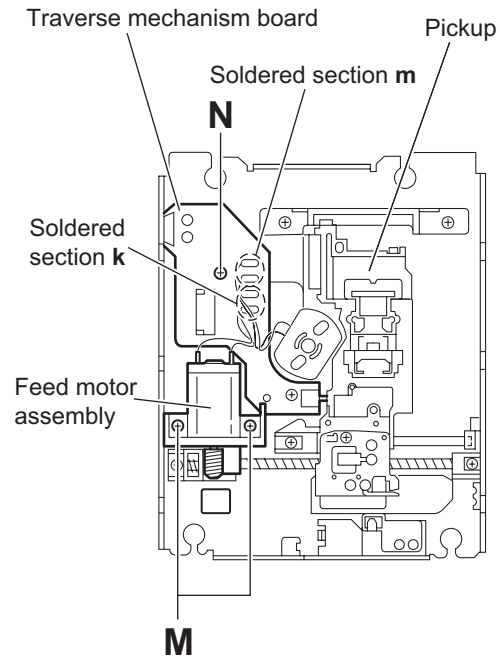

Fig.20
3.3.15 Removing the feed motor assembly (See Figs.20 and 21)
- (1) Remove the wires (White/Black) from the soldered section **k** on the traverse mechanism board.
- (2) Remove the two screws **M** attaching the feed motor assembly. (See Fig.20.)
3.3.16 Removing the traverse mechanism board (See Fig.20)